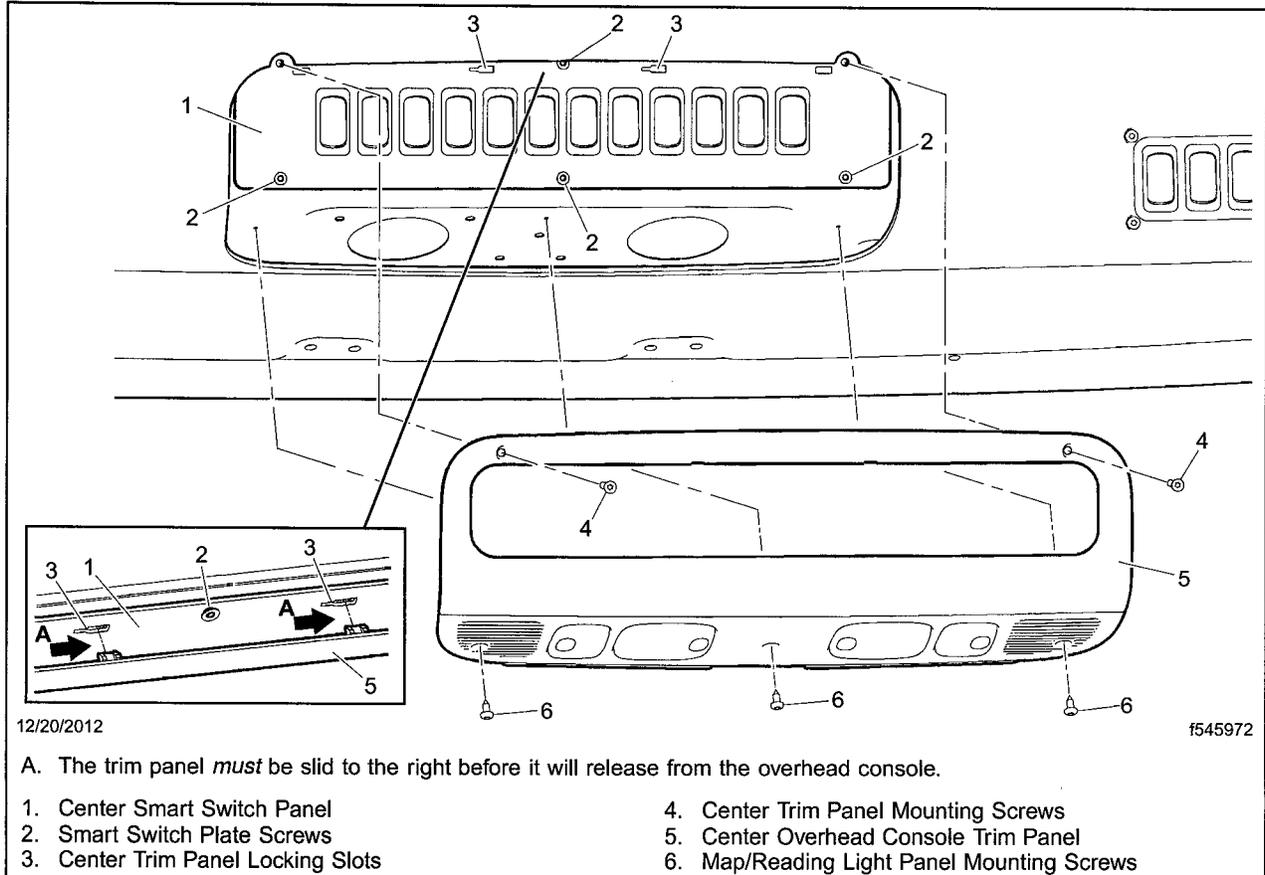

Fig. 1, Center Overhead Console Assembly
3. Remove the center smart switch panel in the overhead console. See **Fig. 1**.
- 3.1 Remove the five screws that secure the center trim panel and the map/reading light panel to the overhead console. See **Fig. 1**, refs. 4 and 6.
- 3.3 Remove the four screws that secure the smart switch panel, then remove the panel. See **Fig. 1**, ref. 2.